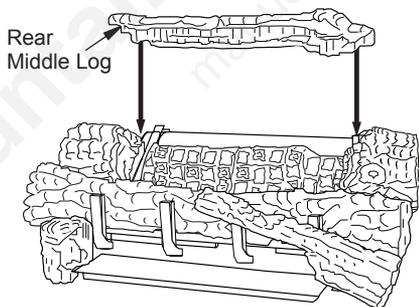

Figure 45 - Installing Rear Middle Log
8. The rear middle log (18" D-068, 24" & 30" D-042) should fit between the ramp log and the rear burner. The left and right middle logs have recessed areas for the rear middle log to sit into (See Figure 45). There may be a small gap between the rear middle log and the ramp log, this is normal. Be careful not to push the rear burner out of position while installing this log.